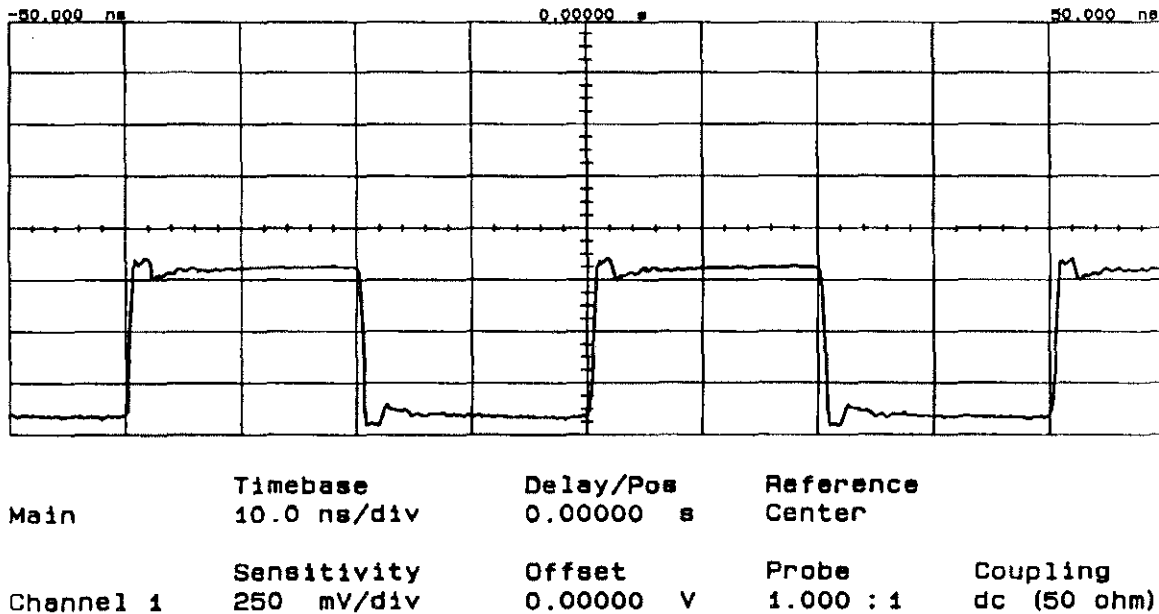

Figure 12-1. Waveform at A20J2(1)
The overall functionality of the A20 assembly is checked by applying a 100 MHz, -10 dBm signal to the Channel C input, and verifying that the A20 assembly output, A20J2(1), is approximately 25 MHz,  $\geq 600$  mV (see *Figure 12-1*). The procedure to verify correct operation of the A20 assembly is as follows:
- A. Using an HP 3458A, verify the voltages at A20U6(1) and A20U6(11) are both between -1.2 V and -1.4 V. If either of the voltages are not correct, then replace A20U6.
- C. Verify the voltage at A20U6(8) is approximately -5.2 V. If the voltage is not correct, then verify the voltage at the -5.2 V test point on the A9 assembly is correct. If this voltage is not correct, then proceed to the A9 Double and A10 Triple Regulator Adjustments, located in chapter 3.
- D. Perform Steps A through G of the A20 Troubleshooting Approach to verify the signal at A20J2(1) is approximately 25 MHz,  $\geq 600$  mV (see Figure 12-1). If the signal does not have the correct frequency or is less than 600 mVp-p, then replace A20U6.